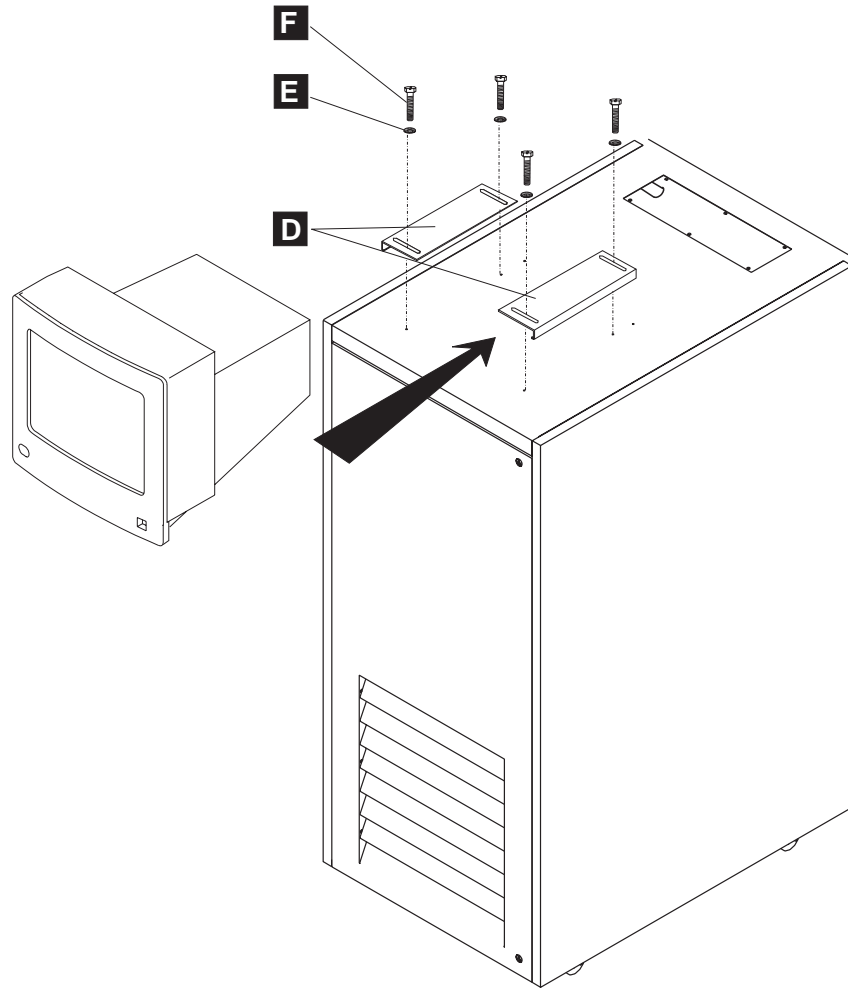

Figure 1-28. Safety Retainers Installation
- a. ___ On the top of the 29 U rack install the safety retainers **D** (PN 02N1503) with screws **F** (PN 1621601) and star washers **E** (PN 1622336), see Figure 1-28 on page 1-23.